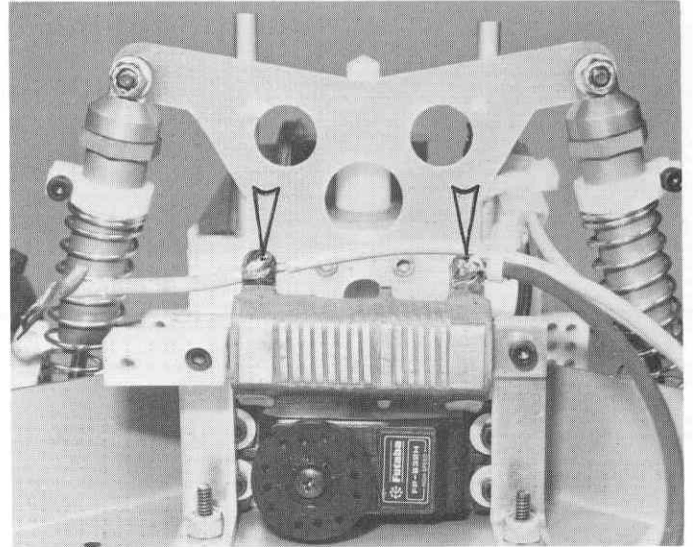

Fig. 154
□ **Fig. 154** In the end of these instructions is a full page detailed drawing of the wiring installation. We'll use that page to help clarify the installation. Attach the correct wires to the resistor per the drawing, and make sure the wire lengths are the same as in Photo 179. If you put the wires through the holes and bend them around they'll stay while soldering. Use only rosin core solder and solder both connections, as shown. All these wire connections MUST BE soldered.